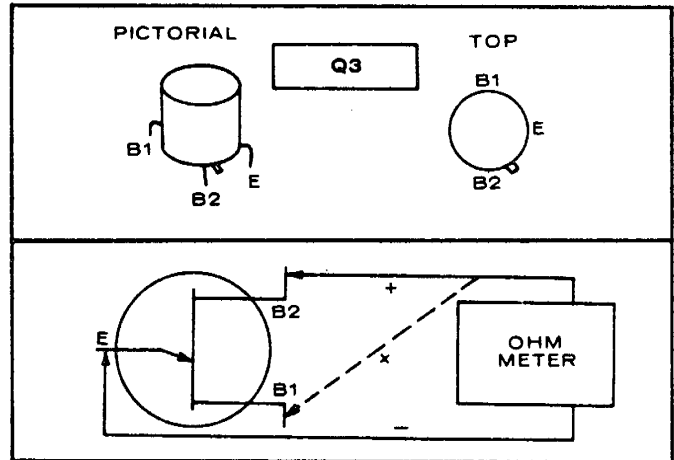

FIGURE 15.
1. With the negative lead on E, the resistance from E to B1 or from E to B2 should exceed 1 megohm. See Figure 15.